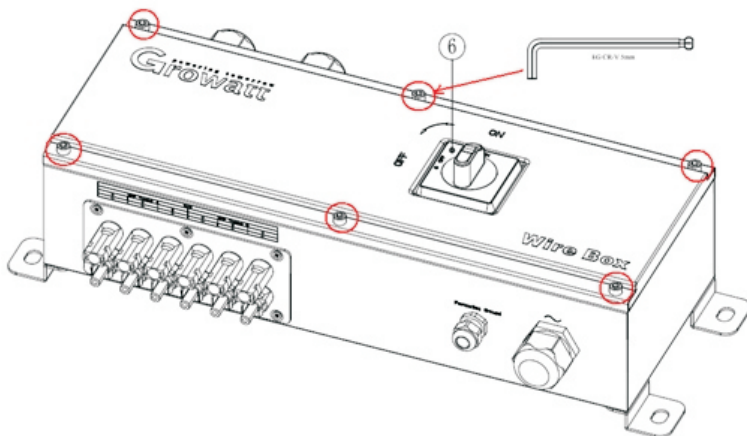
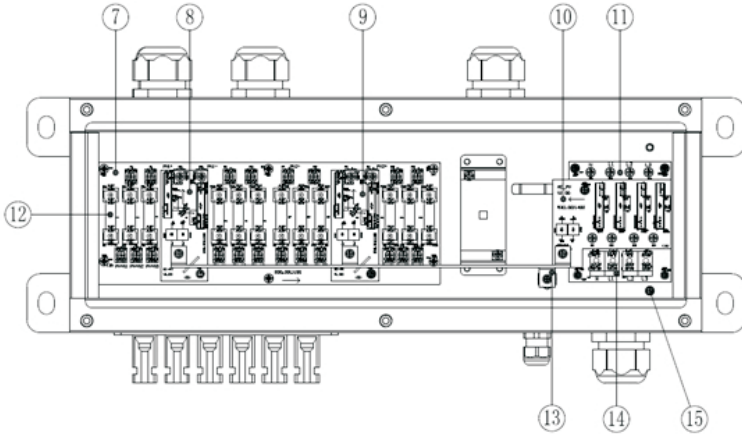

Figure3: General outside view
Figure4: General inside view of the Wire Box
If you want to open wire box, first, put the switch to the "OFF" position. Then you can use the appropriate tools to unscrew the screws on the cover (such as Figure3).
Before connecting the AC cable of Wire Box, please make sure the power grid have been disconnected. Open the cover, as shown in Figure3, make AC cable go through AC cable gland and fasten L1/L2/L3/N to AC input terminal .Crimp ring terminal to PE line ,then tighten it to PE terminal as shown in Figure4(15), then fasten cable gland .As the same way, connect the lightning protection ground line to the right position as shown in Figure4 (13).Cover the lid, ensuring AC switch to point OFF state, tighten all screws.